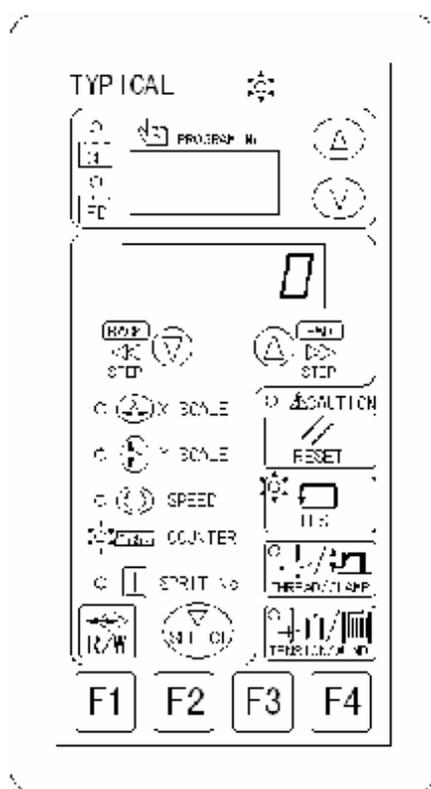

Fig. 5-14
1. In the sewing speed set-up interface, press  and  keys simultaneously to enter the lower thread counter set-up mode (as shown in Fig. 5-14).